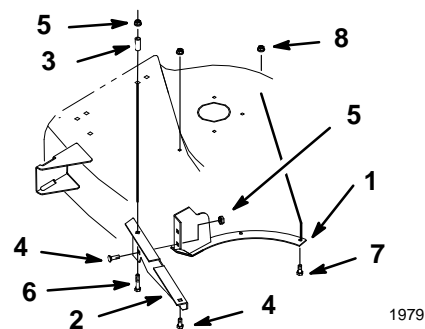

Figure 9
3. Install rear grass baffle and grass ring inside discharge chute area. Secure with 5/16 x 7/8" carriage bolts and 5/16 lock nuts (Fig. 9). Add latch tube to outer bolt securing rear baffle before securing with lock nut (Fig. 9).